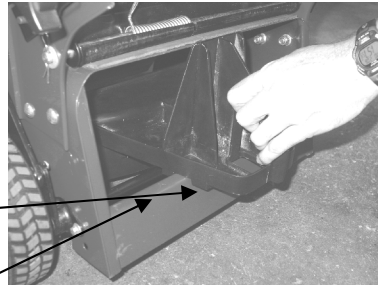

Figure 7. Mulch plug installation (B)
- Align the lugs (1) (on the underside of the mulch plug) either side of the rear chute (2) then lower the mulch plug until it sits down flat onto the top of the rear chute in the mower base. Refer to figure 7.
- Grasp the rear of the mulch plug and lift up and away from the mower. Refer to figure 7.